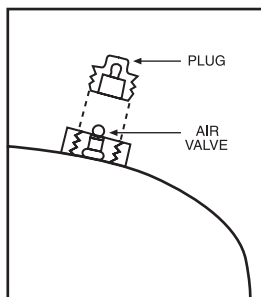

Figure 1
3. Remove air valve core (Figure 1) to bleed remaining air charge.